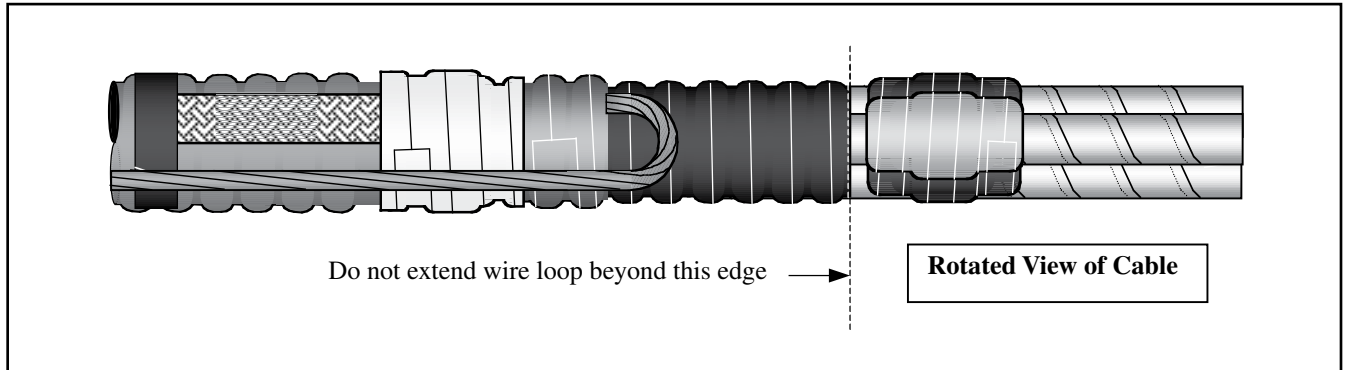

Figure 6
2.9 Loop cable ground wire back over armor (*Figure 6*). Adjust ground wire position over cable jacket to run parallel with tail of ground braid assembly.